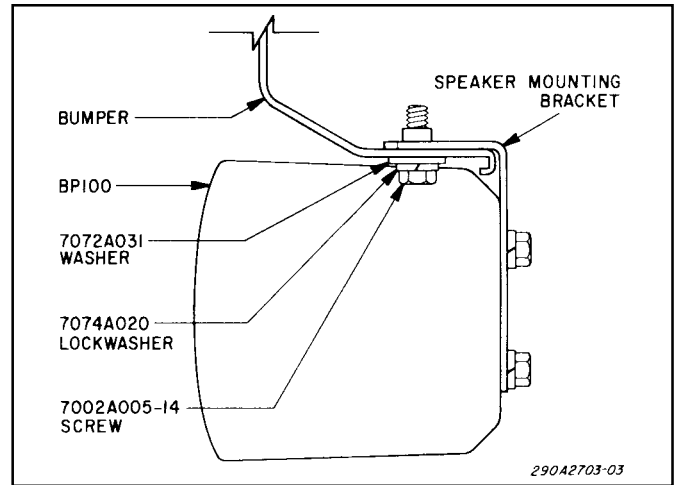

Figure 3.
5. See figure 3. Slide the speaker bracket's top lip over the bumper's bottom lip and align the holes. Secure the speaker/bracket assembly in position using the 5/16" x 7/8" screws, flat washers and split lockwashers. Ensure that all fasteners are properly tightened.